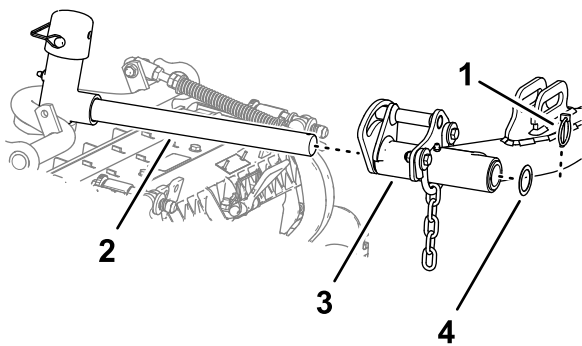

Figure 29
- Slide a cutting unit under the lift arm (Figure 29).